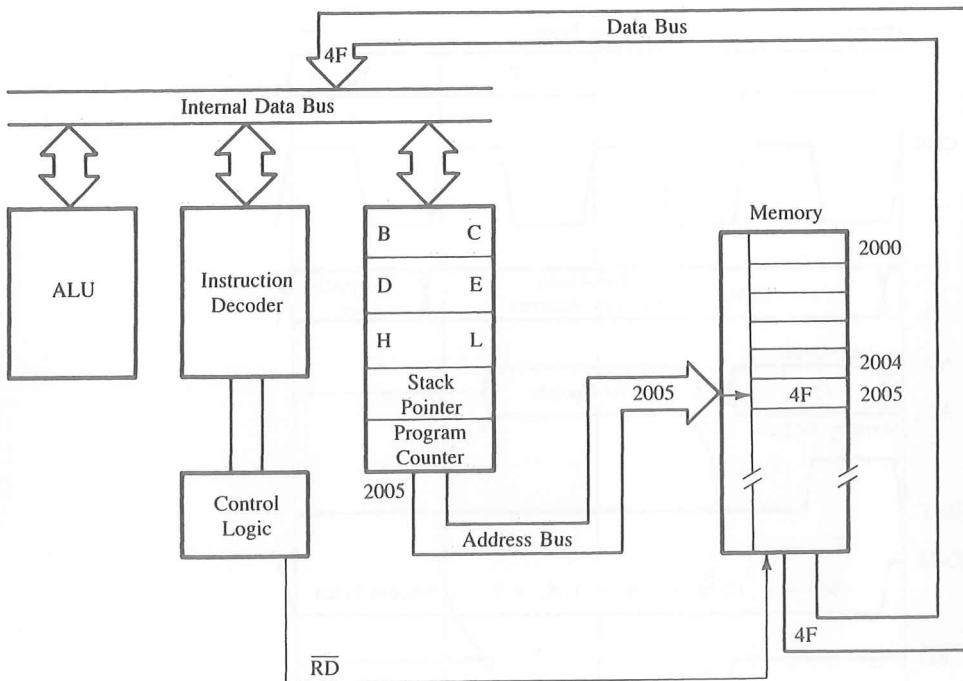

FIGURE 4.2
To fetch the byte (4FH), the MPU needs to identify the memory location 2005H and enable the data flow from memory. This is called the Fetch cycle. The data flow is shown in Figure 4.2, and the timings are explained below.
Step 1: The microprocessor places the 16-bit memory address from the program counter (PC) on the address bus (Figure 4.2). In our analogy, this is the equivalent of our courier getting on the road to find the address.
Step 2: The control unit sends the control signal \overline{RD} to enable the memory chip (Figure 4.2). This is similar to ringing the doorbell in our analogy of a package pickup.